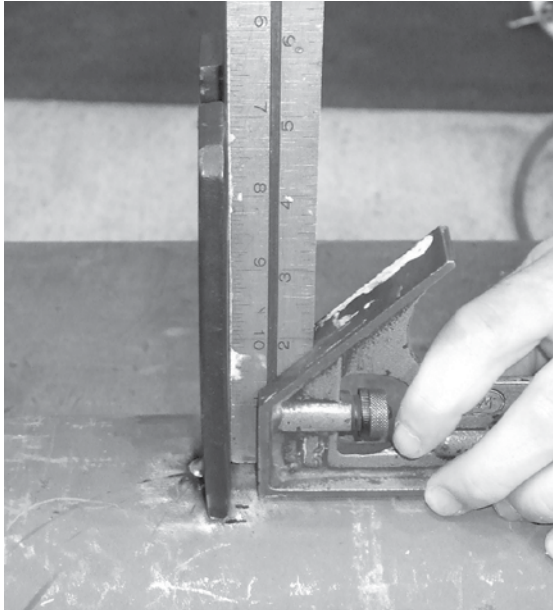

Figure 5: S-cam bracket must be perpendicular to axle tube
8. Using a square, **check** the perpendicularity of the S-cam bracket to the axle tube (Figure 5). Make any adjustments prior to final weld.